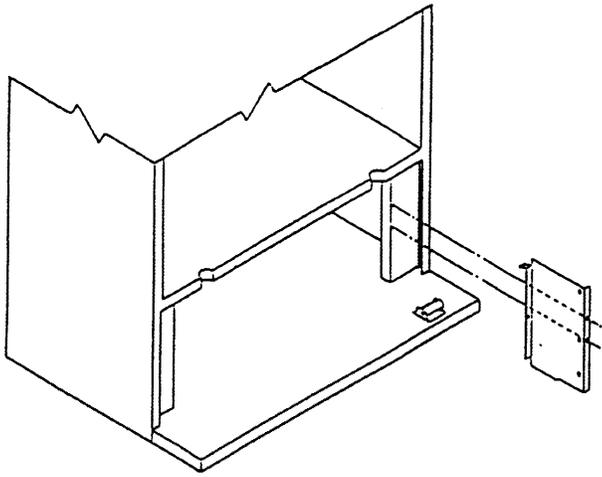

Figure 1
3. On Ranson built venders with old style (6" wide) base boxes, install new right hand baffle (805,800,67x.x1) & secure. (See fig 1, page 6).